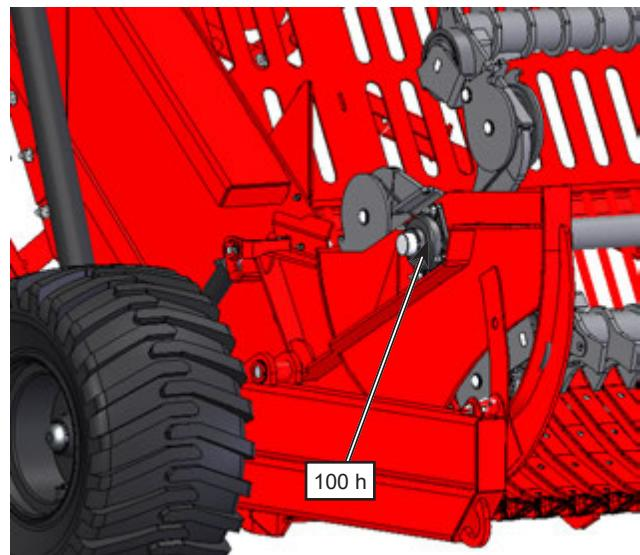

Figure 6.15: Grease the reel bearing - right side
- a. 2 grease points; see *Figures 6.15 and 6.16*.